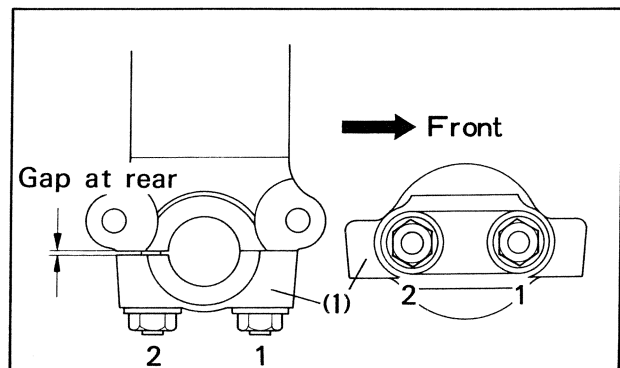

Fig. 5-11 (1) Axle holders
(2) Speedometer gear box
5. Tighten the front axle holder nuts, beginning with the front one on the disc side, as shown in Fig. 5-11.